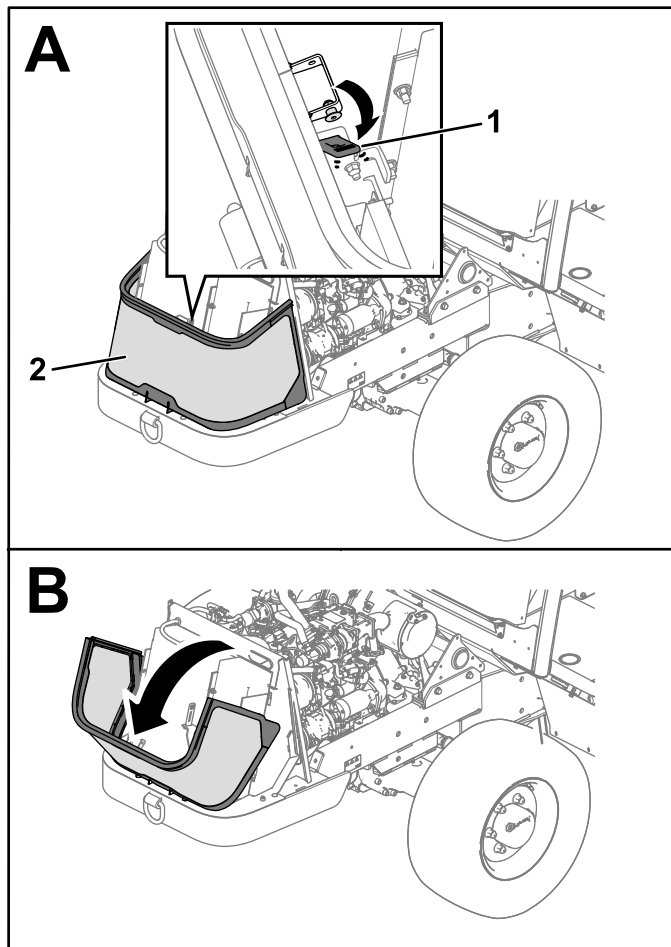

Figure 119
2. Lower the front screen by releasing the strap that holds it in place (Figure 119).